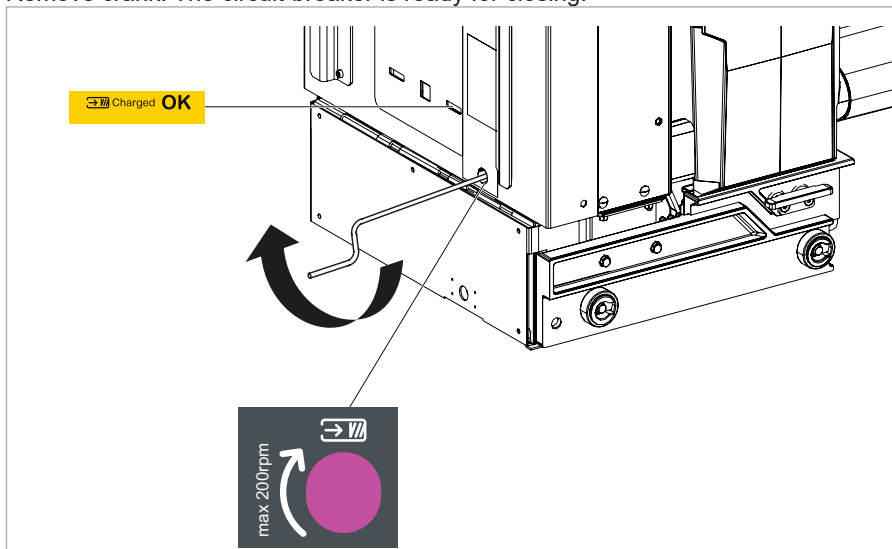

Fig. 31
1. Insert crank into opening for tensioning the energy storing device (Fig. 31).